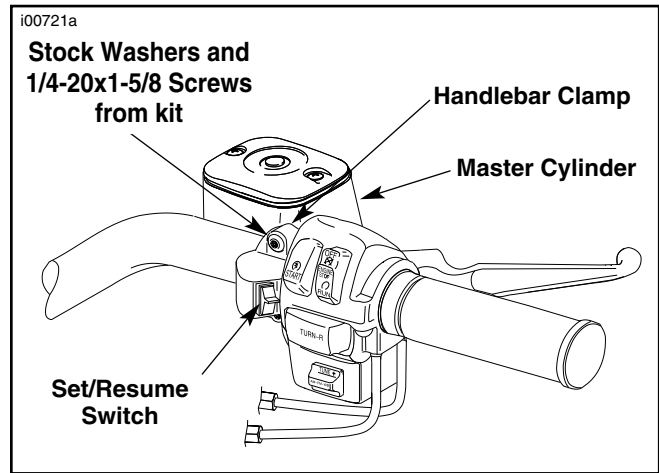

Figure 8. Set / Resume Switch Attachment
4. See Figure 8. Attach handlebar clamp to master cylinder with the stock washers and two 1/4 -20 x 1-5/8 in. hex socket button head screws from kit.